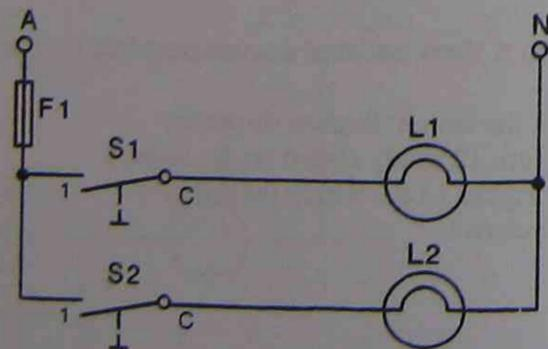
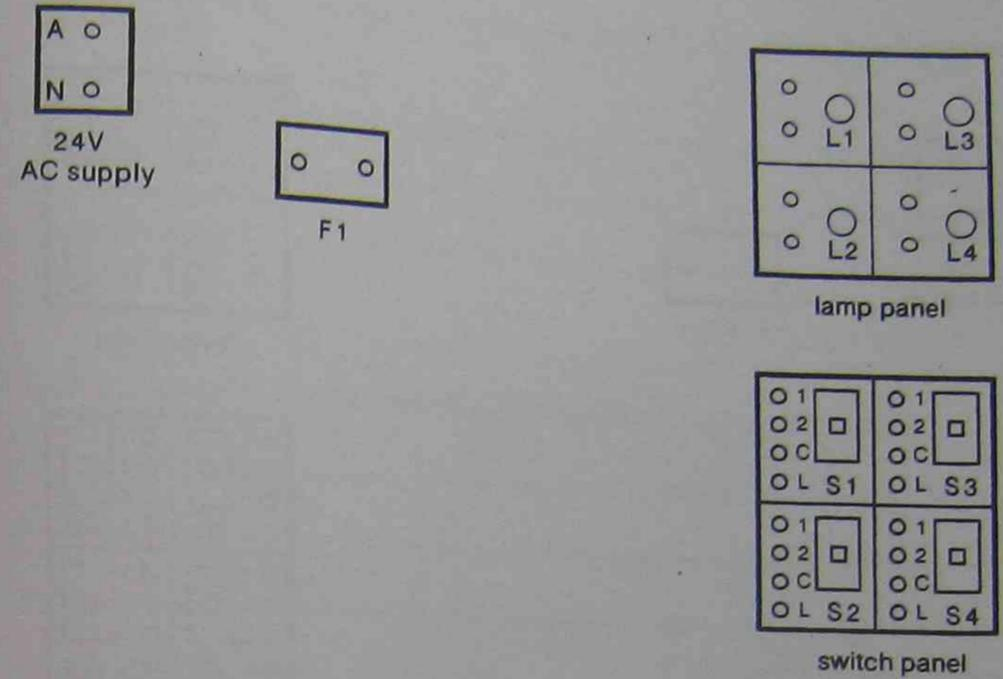

Figure 14 Circuit diagram
Figure 15 Wiring diagram
16. For the circuit diagram shown in Figure 14 neatly sketch on the layout of Figure 15 the wiring diagram for the circuit.